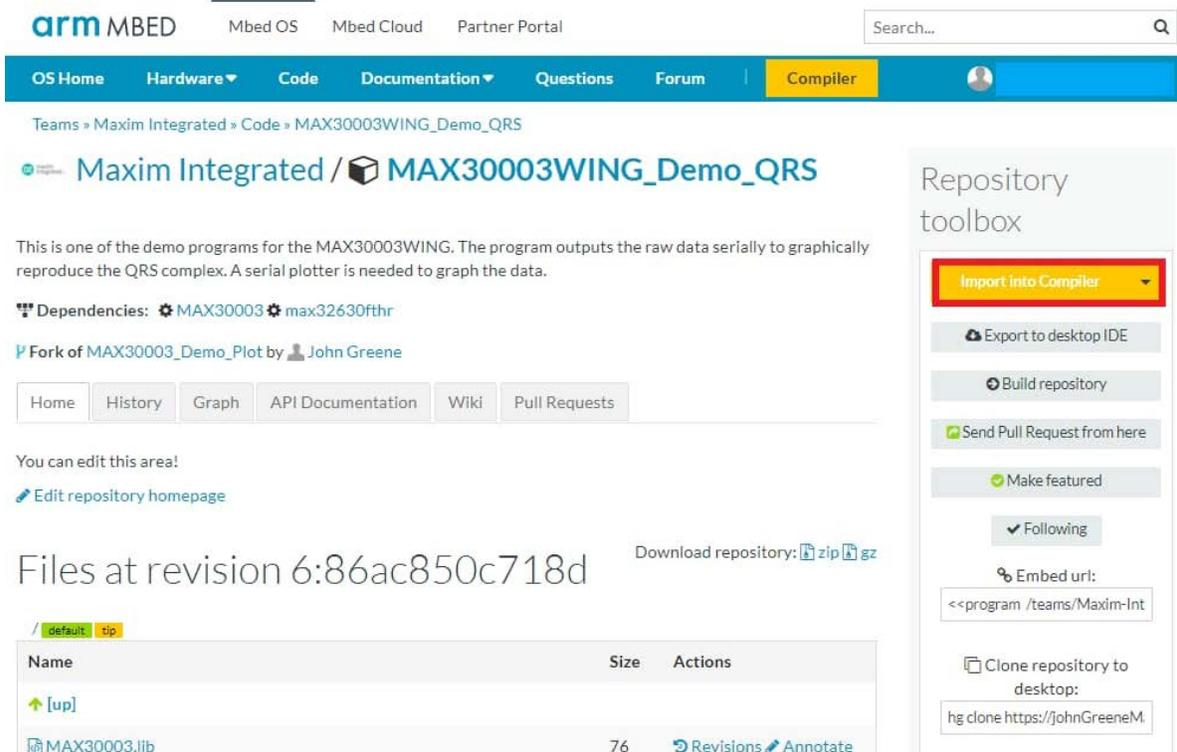

Figure 4. Highlights the *Import into Compiler* button with a red box on the *MAX30003WING_Demo_QRS* repository.
5. **Figure 4** highlights the import button on the MAX30003WING_Demo_QRS repository page with a red box. Click the **Import to Compiler** button; this automatically opens the Mbed compiler in a new window. When this window opens, select **Import** to import the program.